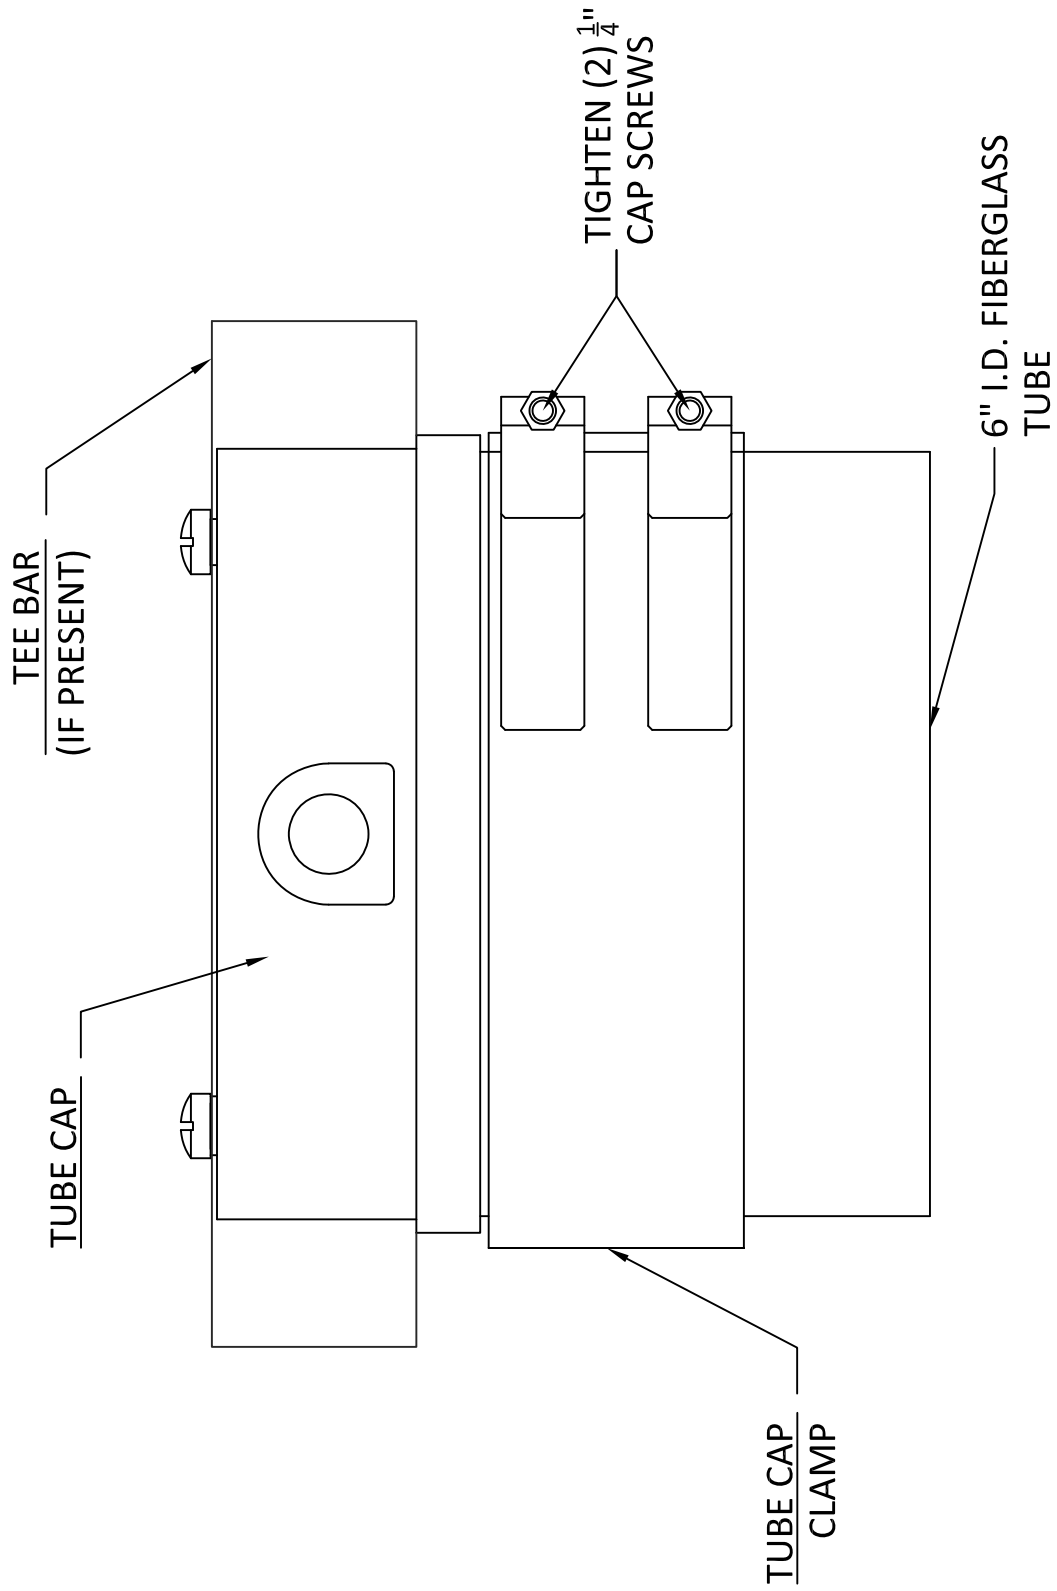

FIGURE 6-10
- D.** All LIR structures: With a 3/16” Allen wrench check tightness of ¼” cap screws on the tube cap clamp (See Fig 6-10).